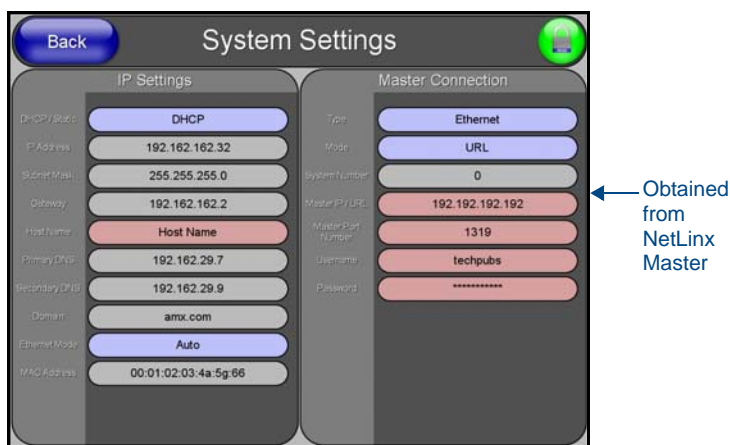

FIG. 63 System Settings page
7. Select **Protected Setup > System Settings** (located on the lower-left) to open the System Settings page (FIG. 63).